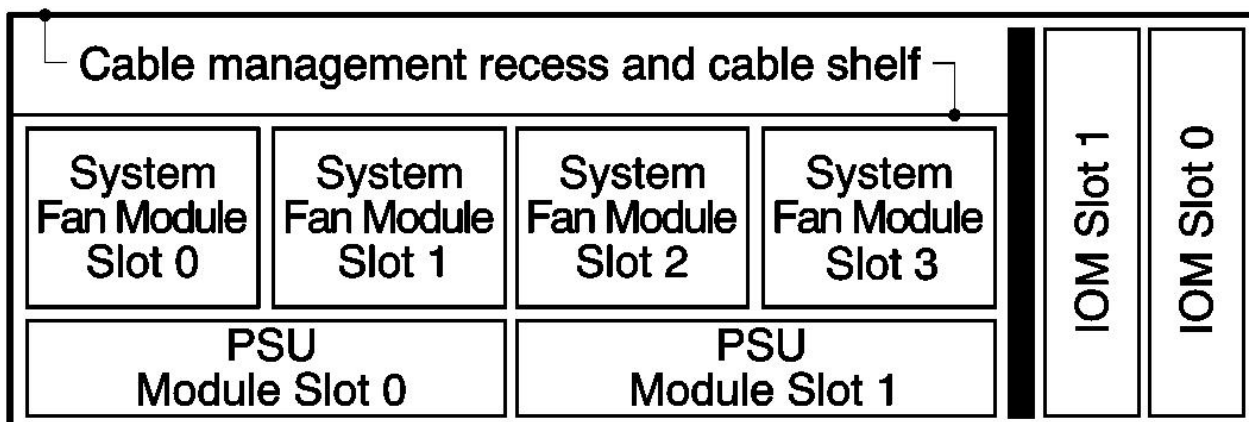
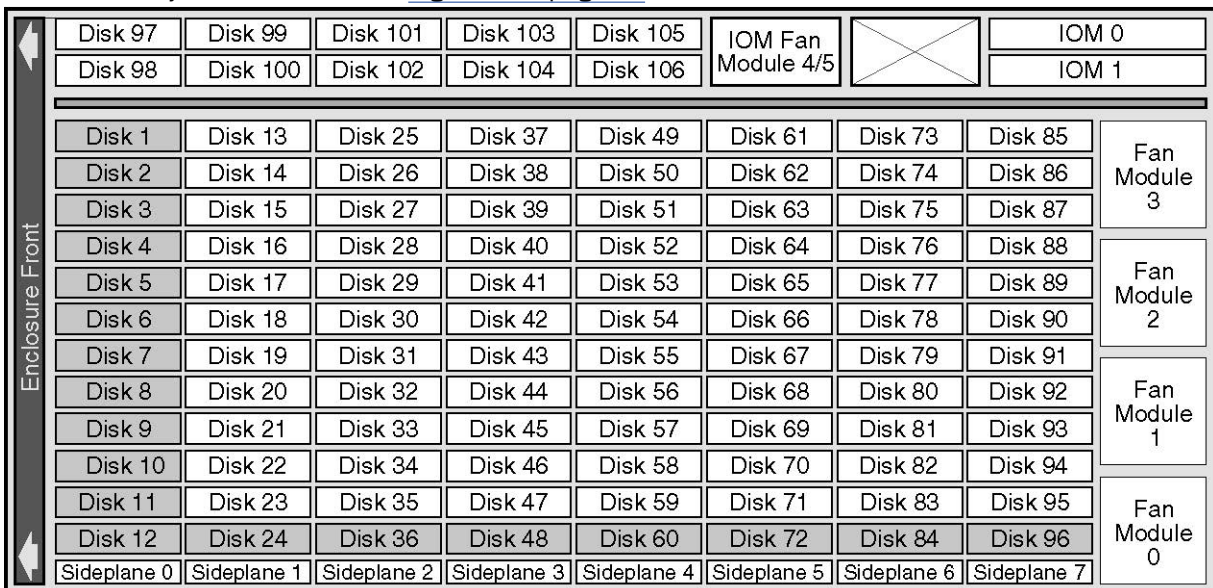

Figure 5. Model 106 enclosure – rear panel module slot index diagram
Figure 11. Model 106 enclosure – top panel module – slot index diagram
See Figure 5 on page 10 for a conceptual diagram showing module slot-indexing as viewed from the rear panel.
Figure 11 on page 13 provides a conceptual diagram of module slot-index numbering as viewed from the top of a Model 106 enclosure with all covers removed. To view, the arrangement of PSU module slots—beneath the system fan slots—see Figure 5 on page 10.
The Model 106 is designed for use with a full load of disks; however, it may also be partially populated. In Figure 11 on page 13, Gray-colored disk slots indicate minimum disk module placement for power and cooling reasons. These slots should be populated in all cases. The acronym DDIC (Disk Drive In Carrier) is used as a synonym for disk drive module.
The Model 106 does not ship with pre-installed disk drive modules. When installing disk drive modules, be mindful of the disk slot numbering index shown in Figure 11 on page 13. The following rules apply when populating the Model 106 enclosure with disks possessing 12 watts maximum drive power per slot:
- Populate the minimum disk slot arrangement indicated by gray-colored disk slots in Figure 11 on page 13.
Important: If the Model 106 enclosure is configured with a single expansion module, it must be installed in IOM slot No.0 (as shown in Figure 11 on page 13). An IOM blank must be installed in the adjacent slot (No.1). This configuration is required to ensure sufficient air flow through the enclosure during operation.